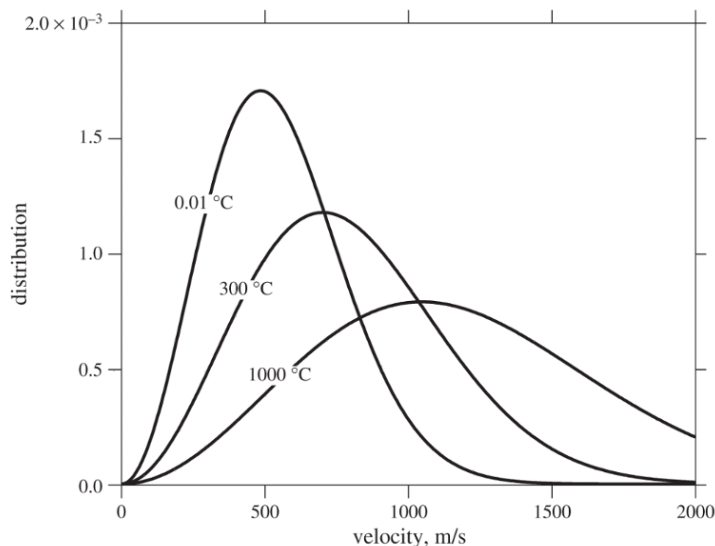

Fig. 9: The Maxwell-Boltzmann distribution of water molecule velocities at different temperatures.
- $f(v) dv$ is the fraction of molecules with speeds in the interval $([v, v + dv])$. Eq. 11 is plotted in Fig. 9 for water at different temperatures.
Fig. 9 shows that as temperature increases:
In Fig. 9, you can see that increasing temperature moves the peak to the right and lowers it while preserving the total area under the curve (the number of molecules).